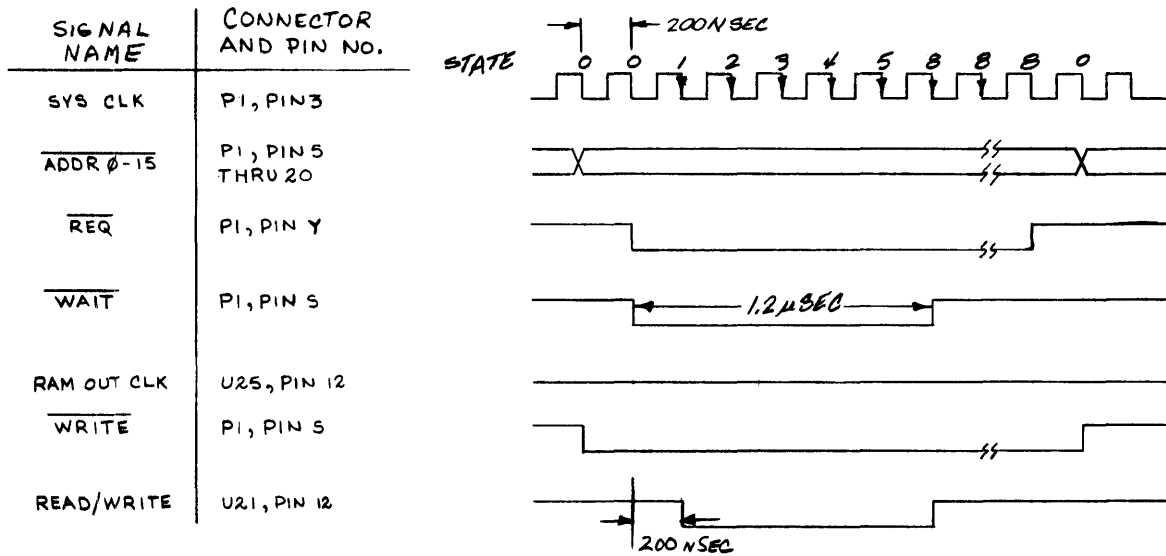

Figure 5
3.5.4 RAM WRITE. A RAM write operation is similar to the RAM read operation described in section 3.5.3 above. During RAM writes the $\overline{\text{WRITE}}$ signal is asserted as shown on the RAM write timing diagram, figure 5. In State 1, the latch (U21, Pins, 1, 2, 8, 9, 10, 11, 12, and 13) is reset. The READ/WRITE (U21, Pin 12) signal goes low and data is written into memory. When the counter moves into State 8, the latch is set; the READ/WRITE signal goes high; and the $\overline{\text{WAIT}}$ signal is terminated. The RAM OUT CLK signal remains low during the entire cycle.